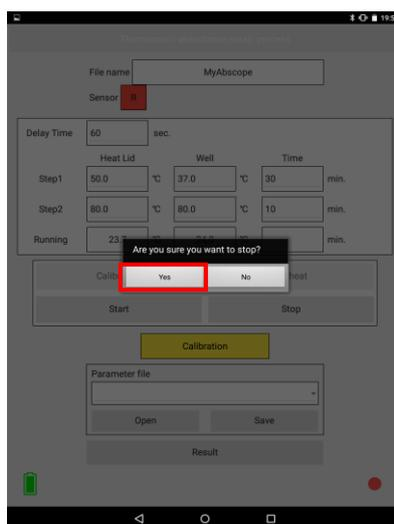

Figure 4-13: Process stop confirmation screen
To quit light intensity calibration halfway, tap the process stop button (7) in Figure 4-7. You will be asked “Are you sure you want to stop?” as shown in Figure 4-13. Tap “Yes” to stop, or “No” to continue the light intensity calibration treatment.